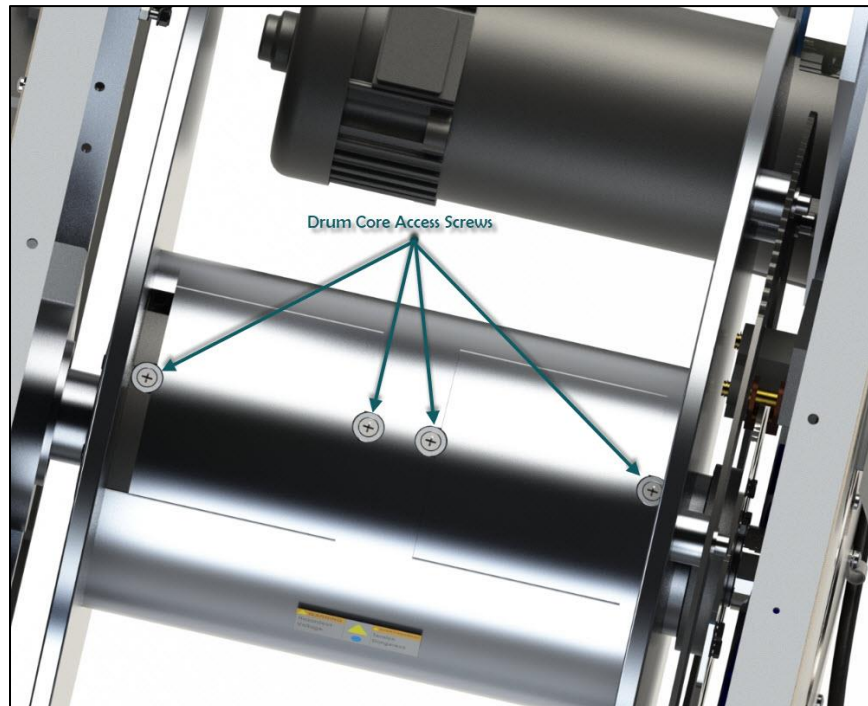

FIGURE 21: DRUM CORE COVERS AND ACCESS SCREWS
4. Remove the Phillips screws from each of the drum core covers (Figure 21).